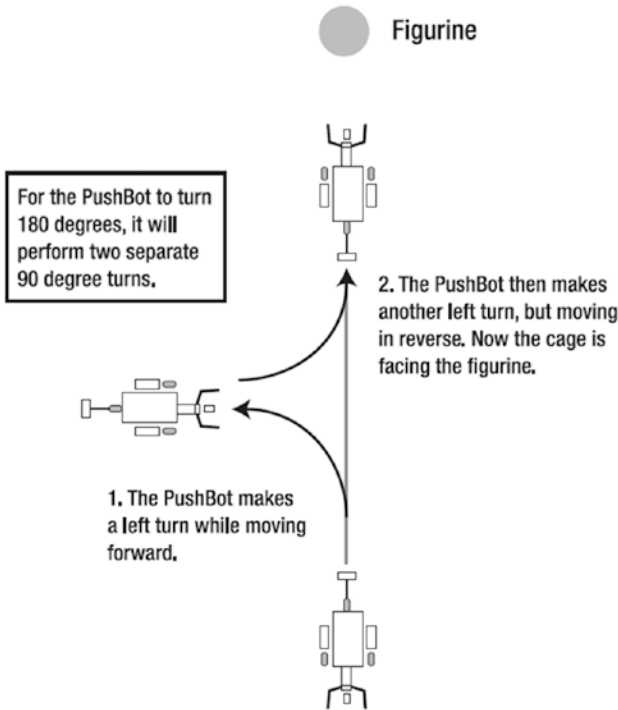
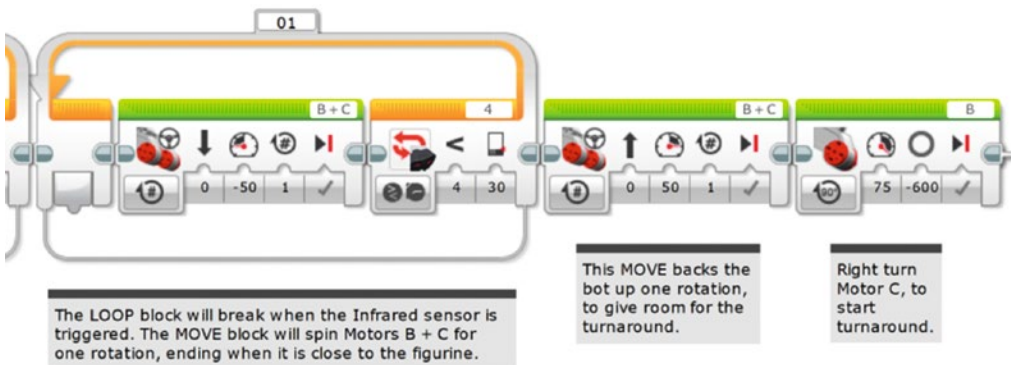

Figure 20-7. The PushBot can turn 180 degrees by a pair of LARGE MOTOR blocks
Figure 20-8. This LARGE MOTOR block makes the PushBot perform a right turn
Next, I will turn *only* large motor B so the bot turns 90 degrees to the left. I will follow this with a LARGE MOTOR block that turns *only* large motor C so the bot turns 90 degrees to the right. At this point, the PushBot will be facing the reverse direction. This is illustrated in Figure 20-7.
I used the method described in Chapter 4 for obtaining the correct number of degrees for large motors B and C to turn. For my PushBot, the right turn (motor B) made in Figure 20-7 requires -600 degrees. For the left turn (motor C), the motor is also configured for 600 degrees (the negative sign simply tells me to configure motor B for 600 degrees but to also change the spin direction). You cannot use a negative number as a duration, so you must enter the same value (600) but select the opposite spin direction. Figure 20-8 shows the LARGE MOTOR block for the right turn.